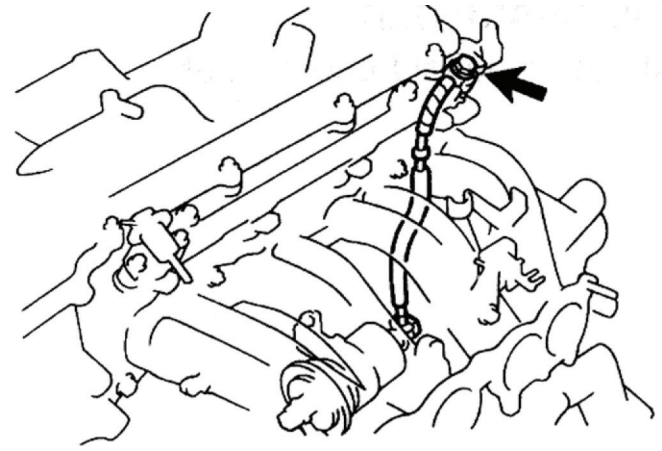

Figure 12
32. Disconnect the fuel inlet banjo fitting from the fuel rail. Remove both banjo washers. See Figure 12.
34. Remove the original equipment (OE) intake manifold chamber stay.